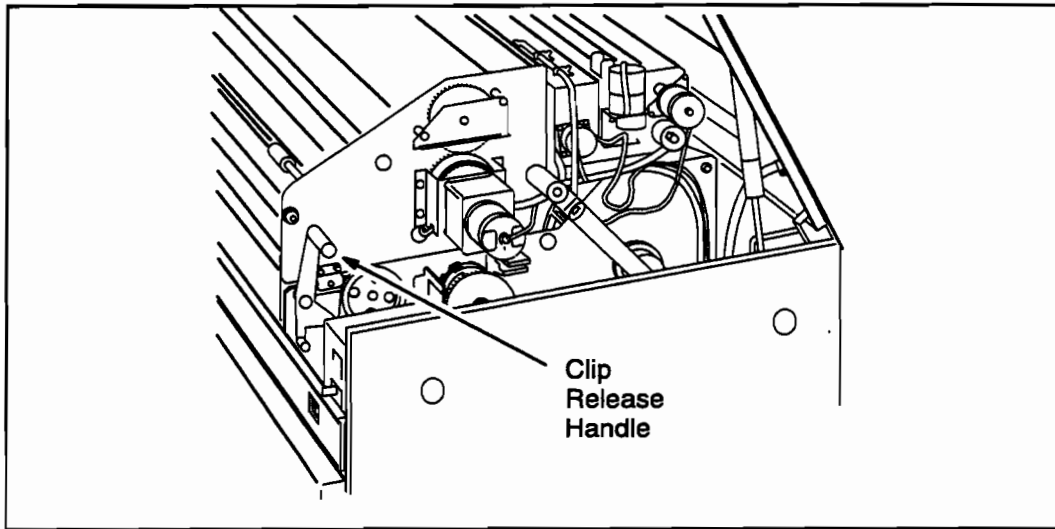

Figure 3-4. Clip Release Handle
7. Raise the upper frame by pulling back on the clip release handle to the right and in front of the upper frame. See Figure 3-4.